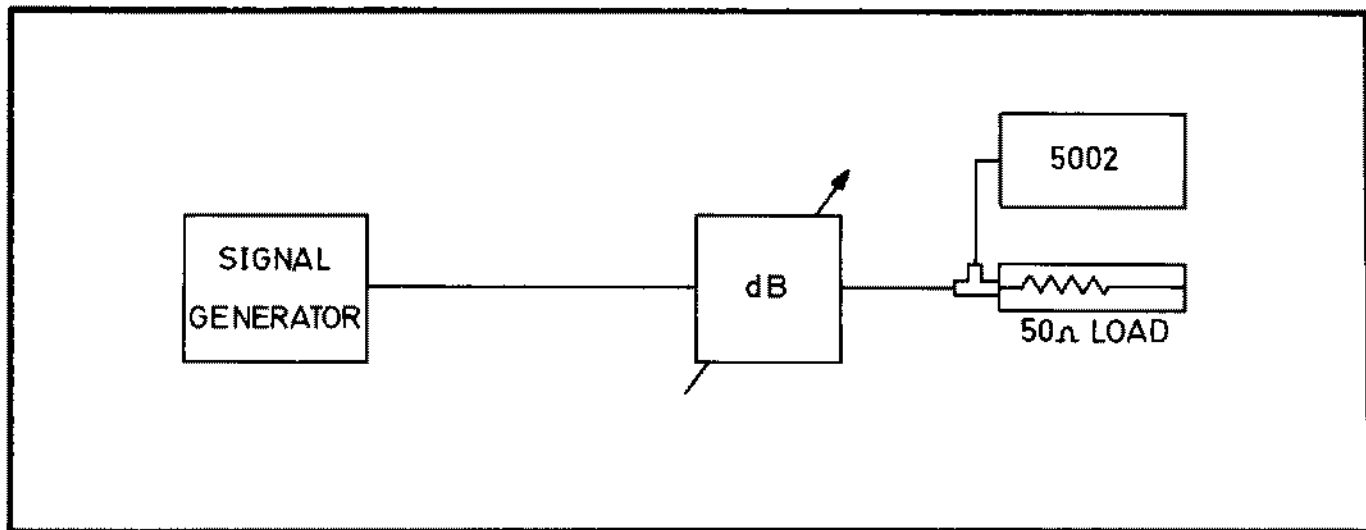

Fig. 6.5 Peak Detector Setting
6.5.12.2 Connect the test equipment as shown in Fig. 6.5.